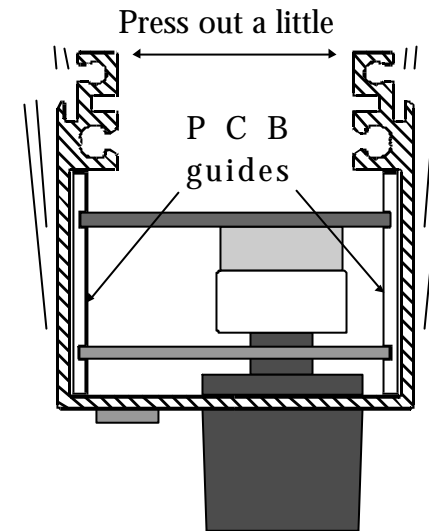

Fig. 5: Front profile shown from VALUE end.
8. At the end with PARAMETER and VALUE knobs, pull out the two white PCB guides. Opening up the profile a little will lighten the pressure at the PCB guides, see fig. 5.